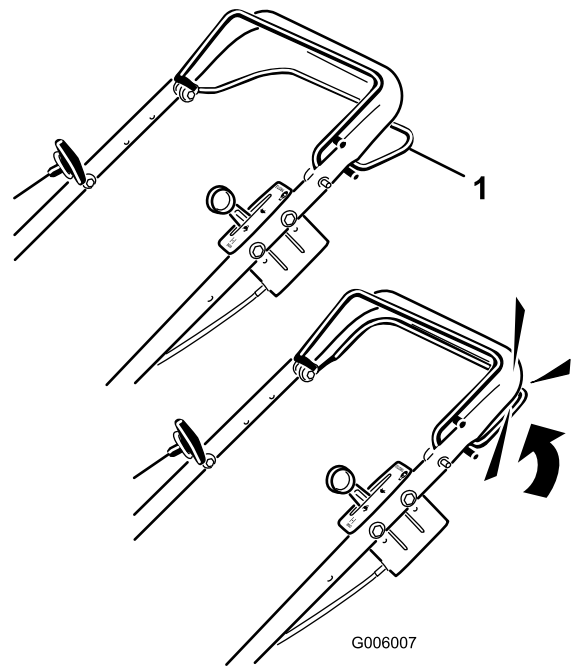

Figure 26
1. To operate the self-propel drive, squeeze the self-propel drive bar against the handle and hold it (Figure 26).